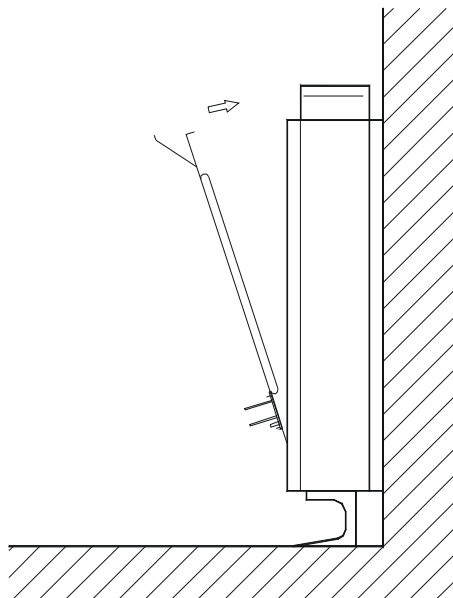

Fig.4
12. Refit the inner front panel. If the bricks have been fitted correctly you will find no difficulty in refitting the panel (Fig.4).